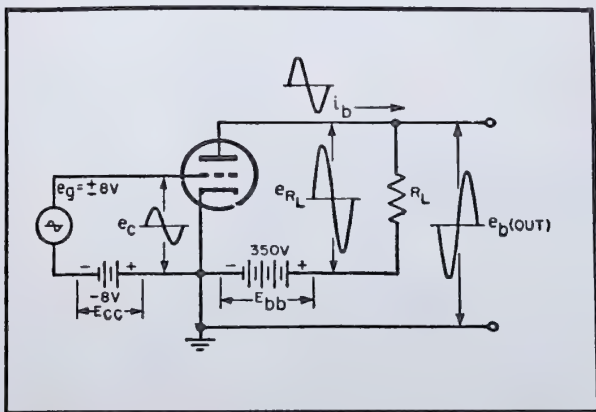

Fig. 10-6. Single-triode class A amplifier circuit.
**Grounded-Cathode Audio Amplifier with Battery Biasing.** The circuit diagram shown in Fig. 10-6 is for a single-triode class A amplifier that obtains all its operating voltages, including grid bias, from batteries. The bias battery, in series with the signal source, is 8V, which sets the operating point for the tube. The phase and character of the input signal is described by the sine wave labeled  $e_c$ . The varying plate current in the output is labeled  $i_b$ . The plate load resistor signal is labeled  $e_{RL}$ . The output signal,  $180^\circ$  out of phase with the input, is labeled  $e_b(\text{out})$ .